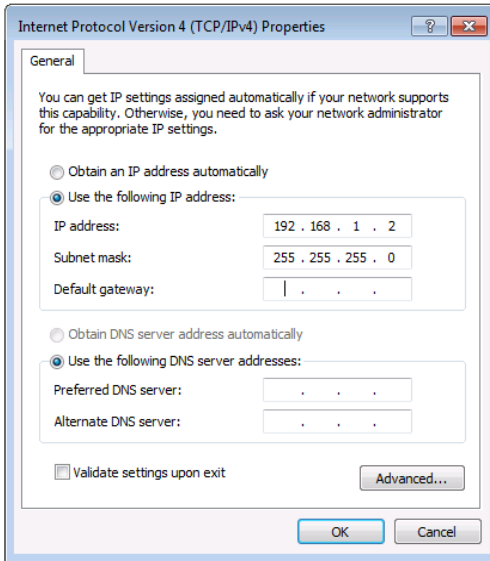

Figure 81: Internet Protocol Properties Window
6. Select **Use the following IP Address** for static IP addressing and fill in the details as shown in Figure 81.